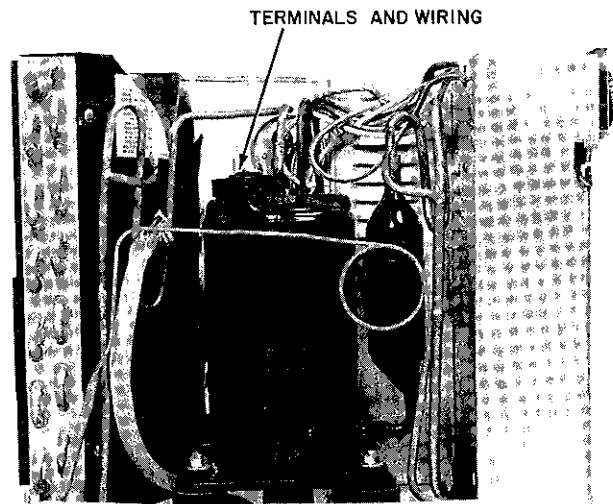

Fig 22 — Compressor and Overload Protector Wires
- b Disconnect wires from compressor and overload protector terminals. See Fig. 22. Identify wires to ensure correct reassembly.